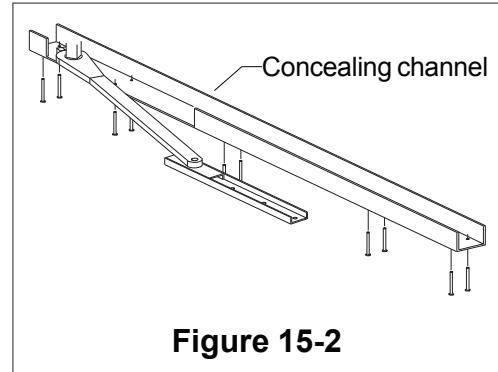

Figure 15-2
1. Prepare header dress plates for concealing channel (Figure 15-2; see separate Installation Instructions for Offset Arm).
2. Install concealing channel (Figure 15-2).